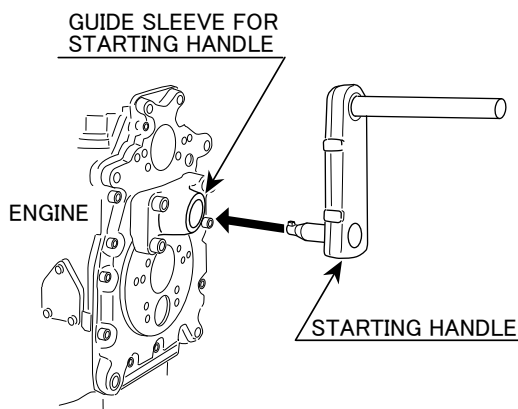

Figure 16. Starting Handle
2. Insert the starting handle into the guide sleeve (Figure 16).